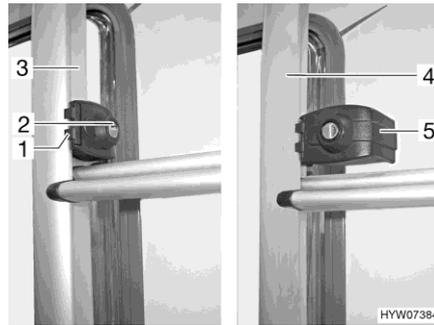

Fig. 4 Lock (rear ladder)
- Insert the key into the locking cylinder (Fig. 4,2) of the rear ladder lock (Fig. 4,1) and turn it a quarter turn until the key is in a vertical position.
- Hold the foldable part of the rear ladder (Fig. 4,4) and swing out the securing bracket (Fig. 4,5).
- Insert the key into the locking cylinder (Fig. 4,2) of the rear ladder lock (Fig. 4,1).
- Swivel the securing bracket (Fig. 4,5) inward around the tube of the fixed part of the rear ladder (Fig. 4,3).